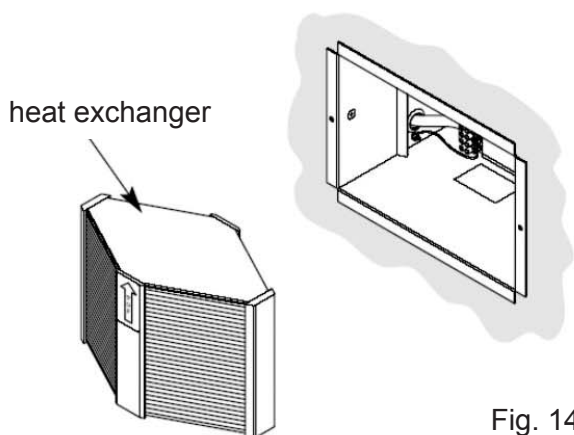

Fig. 14
6. Slide out the heat exchanger (Fig. 14).